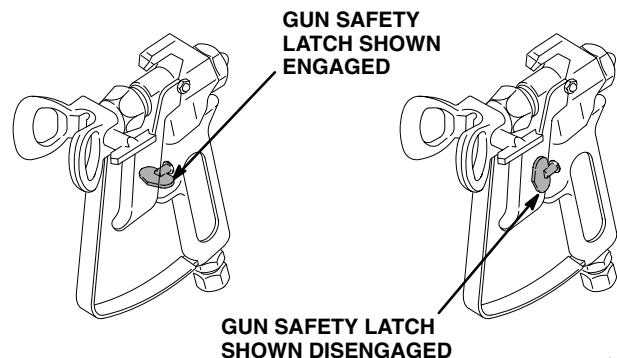

Fig. 3
- b. Disengage the gun safety latch. See Fig. 3. Following the warning, above, trigger the gun until all air is forced out of the system and the paint flows freely from the gun.
6. **Install the spray tip and tip guard.** Engage the gun safety latch. See Fig. 3. Install the spray tip according to the instructions supplied with it.